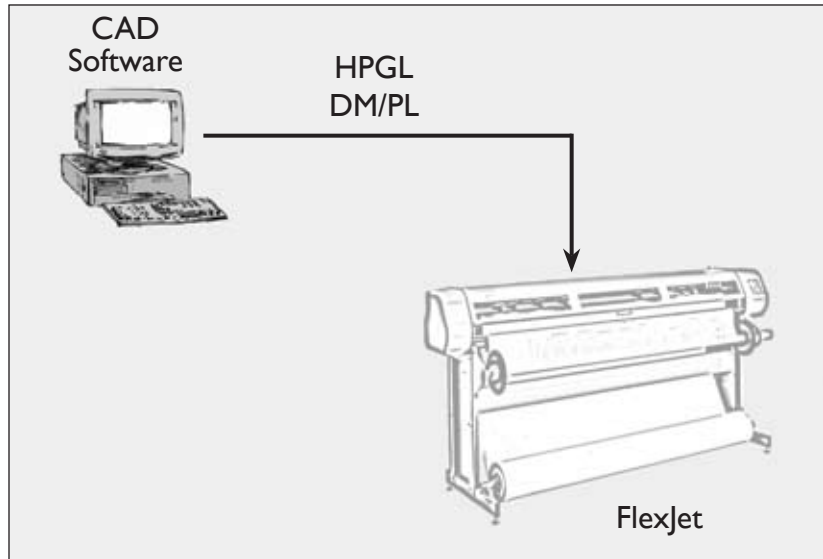

Figure 9. Workflow: output direct from CAD software (without FlexPlot).
1. **Plot directly from the marker or design software to the FlexJet.** (See Figure 9.)